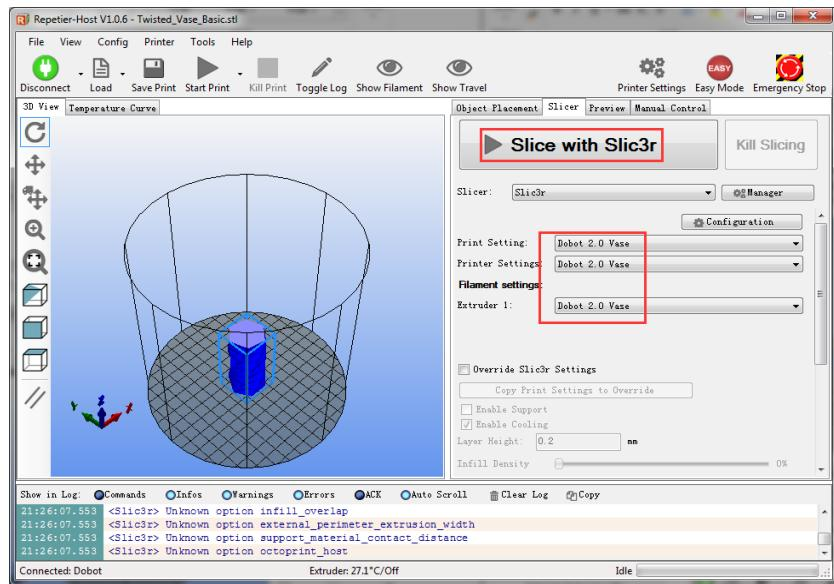

Figure 5.129 Start to slice
- Click **Slic3r** with **Slic3r** on the **Slicer** tab of the **Repetier Host** page, as shown in Figure 5.129.